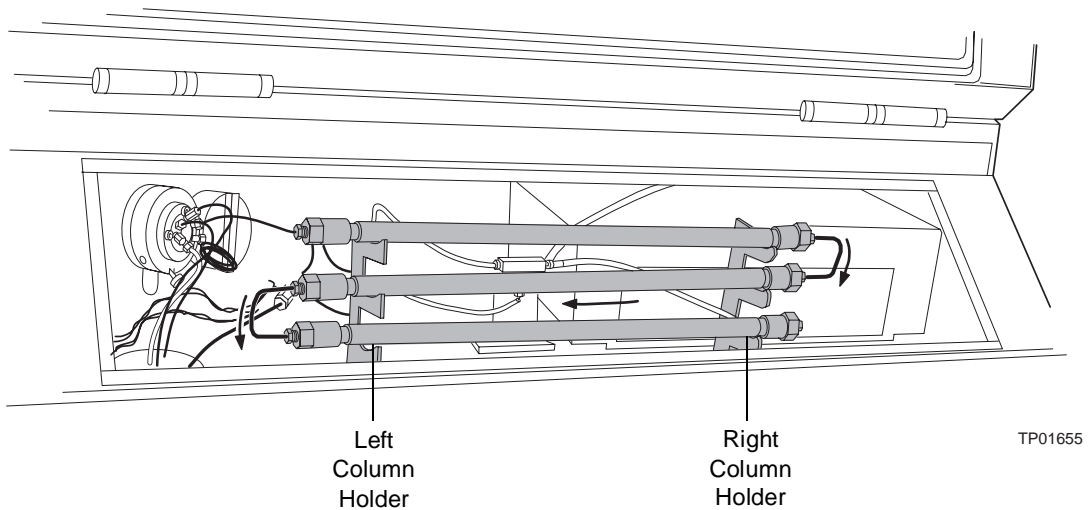

Figure 2-7 Installing the Columns in the Analysis Compartment
5. Place the bank of columns on the left and right column holders (Figure 2-7).